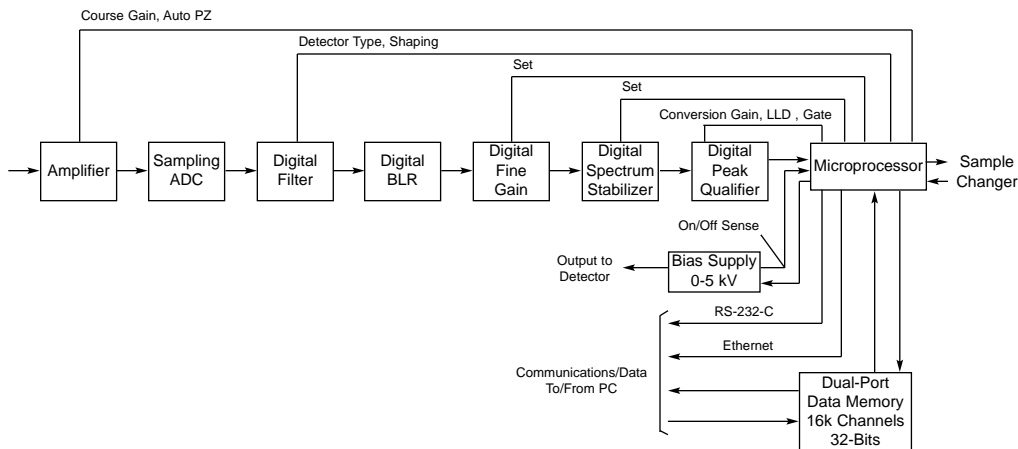

Fig. 25(A). DSPeC Block Diagram.
Figure 25(A) shows the block diagram of the ORTEC DSPEC, which is a complete digital signal processing system for gamma-ray spectrometry. The digital signal processing in this system incorporates the low- and high-pass filters, automatic pole-zero adjustment, the baseline restorer, fine gain adjustment, a spectrum stabilizer, and means for measuring and histogramming the amplitudes of the digital pulses. This latter function replaces the multichannel analyzer normally used with analog signal processing.
Figure 25(B) illustrates the typical digital filter response in the DSPEC. The flat top is employed to eliminate the degradation of energy resolution normally caused by the variations in charge collection time in HPGe detectors (ballistic deficit). For very wide pulse widths, the flat top becomes negligible, and the pulse shape approaches a cusp. The cusp is the ideal filter for